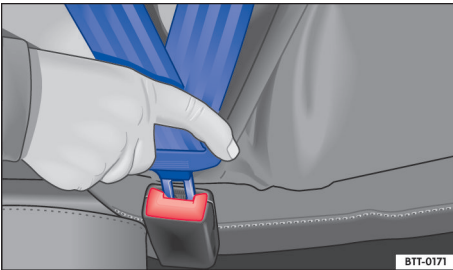

Fig. 25 Insert the seat belt latch into the latch
- Insert the latch into the seat belt latch of the respective seat → Fig. 25.